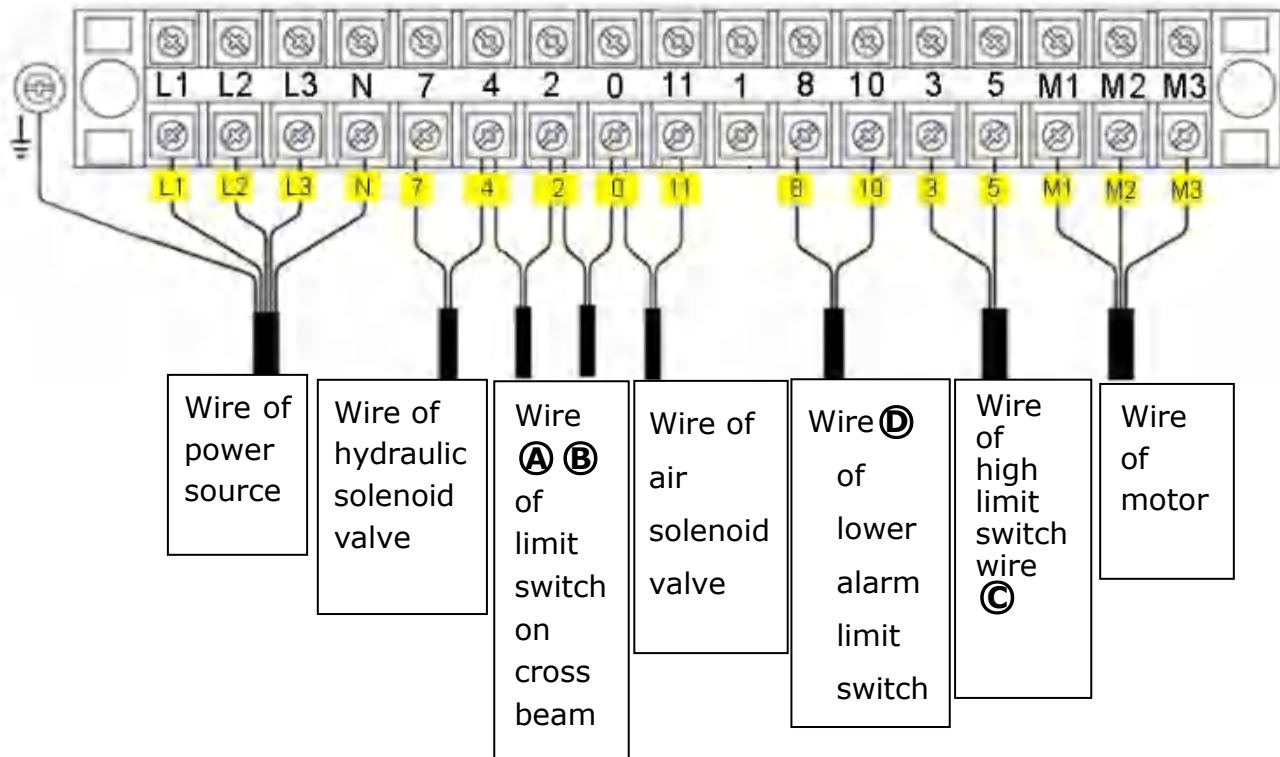

Fig. 42
5.1 Wire connection diagram in the control box (See Fig.42).